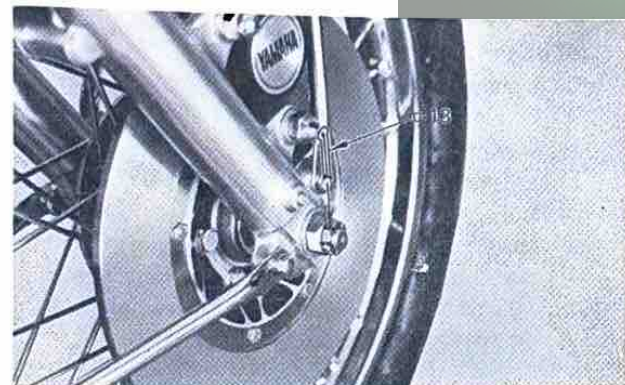

Fig. 19
12. Lock the axle nut with the cotter pin (c-13) contained in vinyl bag (c). (Fig. 19)